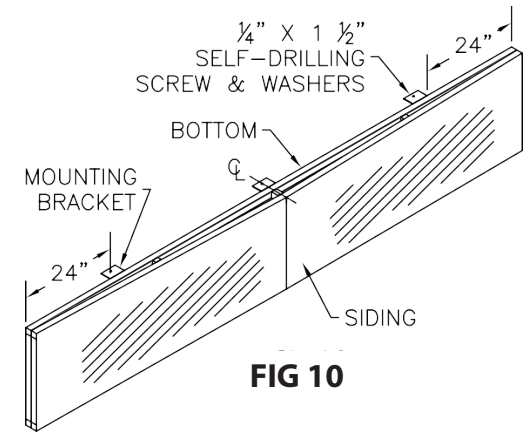

FIG 10
- d. Position Mounting Brackets on Head Frame (Figure 10).
- Use three (3) 3-hole Mounting Brackets.